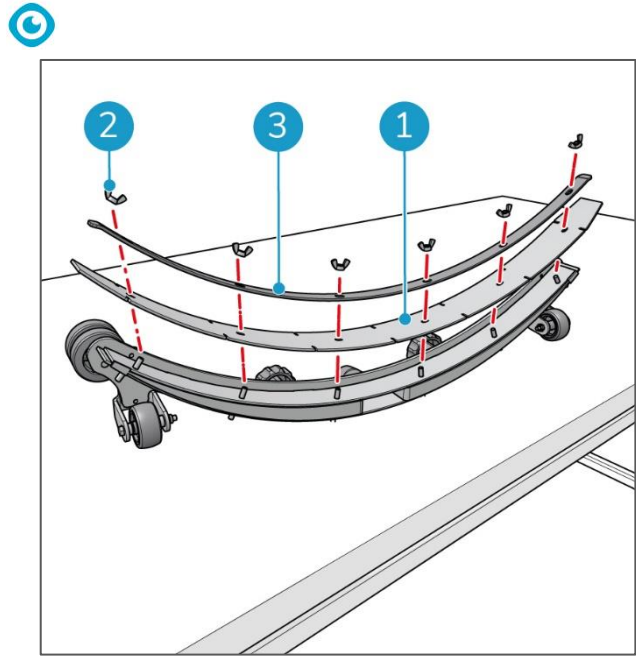

Figure 37
5. Loosen the six wing nuts of the front blade (Figure 37, pos 2).
6. Remove the clamping plate of the front blade (Figure 37, pos 3).
7. Remove the front blade (Figure 37, pos 1) from the squeegee body.
Placing back the front blade. See Figure 37.